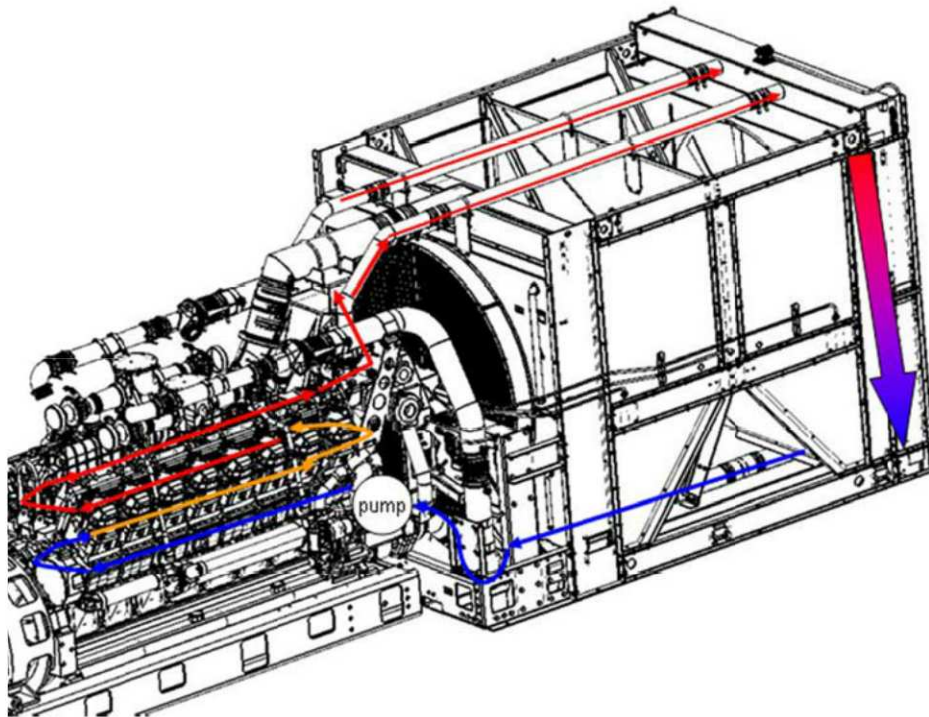

Figure 4: Jacket Water Flow direction (typical)
**NOTE:** Plumbing varies by engine manufacturer and design requirements. Flow diagrams are for reference only (Refer to **Figures 4 and 5**).
- 5.3.1 Plumb coolant connections per drawings provided, ensuring proper flow requirements are followed. (Refer to **radiator drawing and Figures 4 and 5**).
- 6.2.10 Refer to **Figure 4** for plumbing diagram.